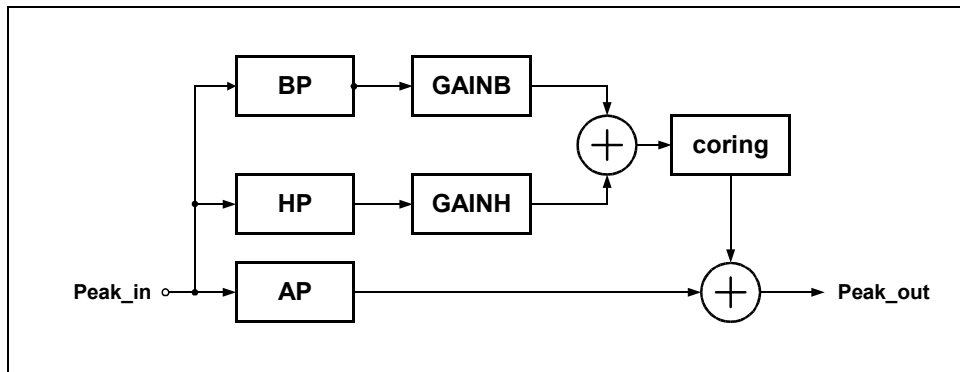

Figure 5-33 Block diagram peaking
The luminance peaking filter improves the overall frequency response of the luminance channel. It consists of two filters working in parallel. They have high pass (HP) and band pass (BP) characteristics. Their gain factors are programmable separately (**BCOF**, **HCOF**). Values greater than 4 peak the signal, whereas values less than 4 attenuate the signal. The high pass and the band pass filters are equipped with a common coring algorithm. It is optimized to achieve a smooth display of grey scales, not to improve the signal-to-noise ratio. Therefore no artifacts are produced. Coring can be switched off (**YCOR**). The Figure 5-33 shows the block diagram of the peaking block.